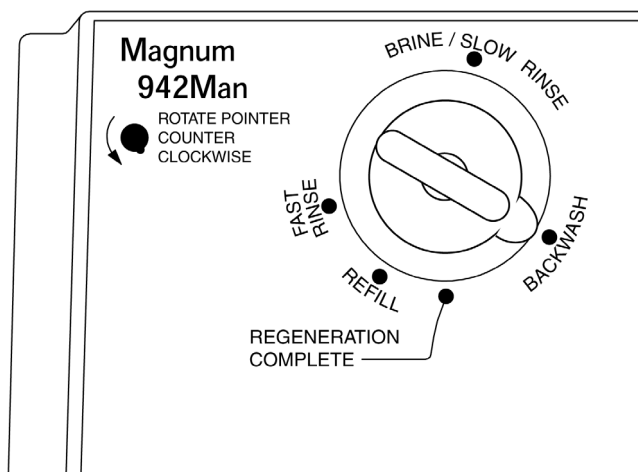

Figure 5.1
1. Move indicator knob **COUNTERCLOCKWISE** from the **Regeneration Complete** position to the center of the **Backwash** (Figure 5.1) position. **DO NOT** turn the knob clockwise.